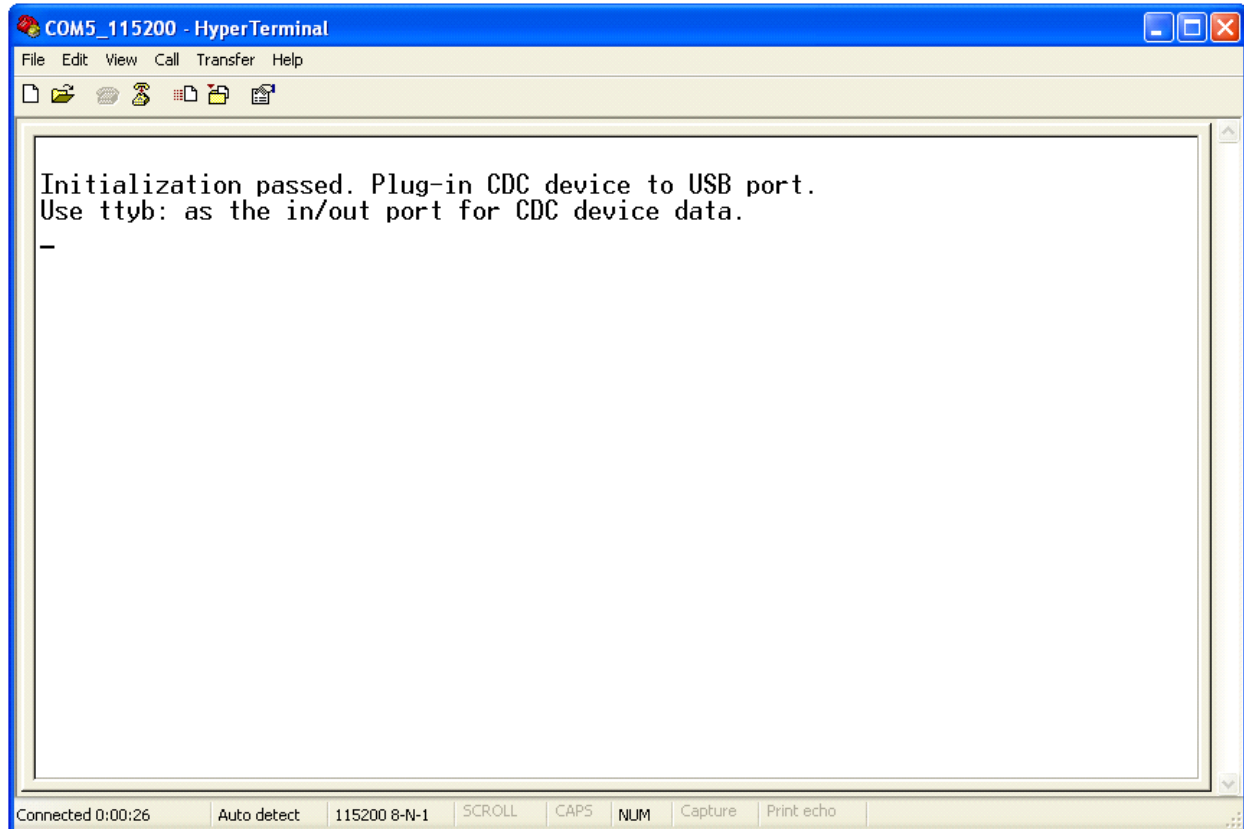

Figure D-2. USB Host waits CDC device plug-in
3. Run the Demo. The HyperTerminal displays a message as shown in Figure D-2.